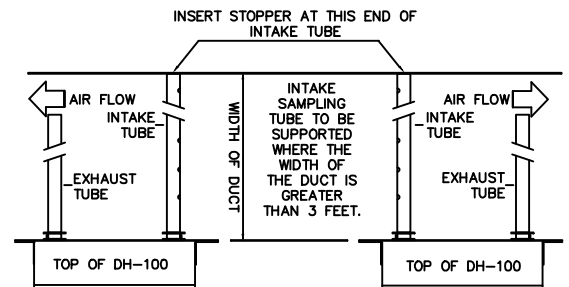

FIGURE 3. SAMPLING TUBE ORIENTATION
G. VERIFY AIR SAMPLING (See Figure 3)